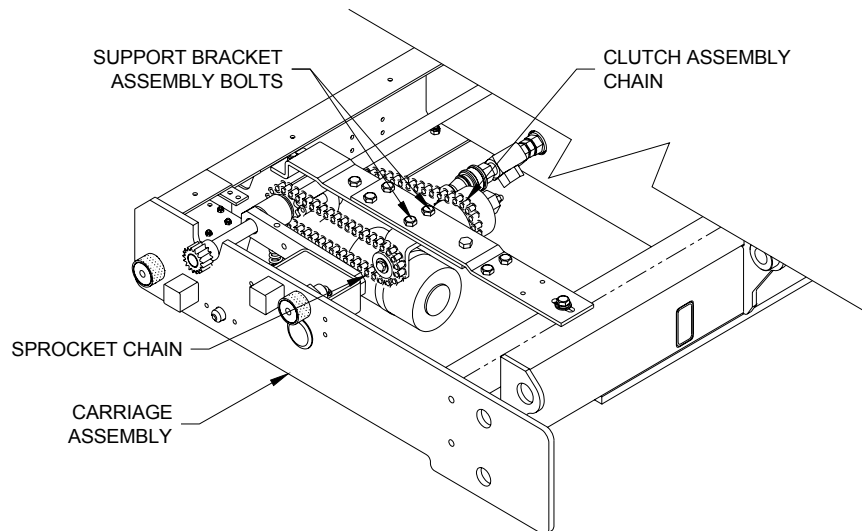

FIGURE 5: REMOVING SUPPORT BRACKET BOLTS (LEFT SIDE VIEW)
10. Refer to **Figure 5**. Remove bolts from support bracket assembly.
11. Refer to **Figure 5**. Remove chains from sprocket and clutch assembly.
1. Refer to **Figure 5**. Position new clutch assembly.
2. Refer to **Figure 5**. Secure support bracket assembly with two bolts.
3. Refer to **Figure 5**. Install chains around sprocket and clutch assembly.